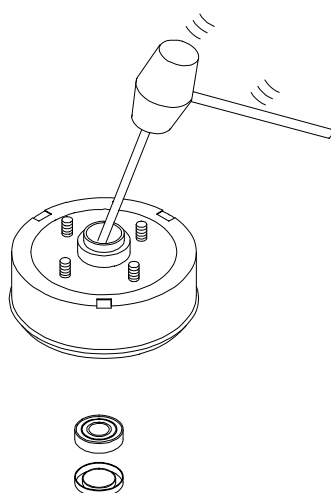

Figure 4.12.3
2. Remove oil seal and bearing cone (with rollers), remove bearing cup by using a 'drift' or bar through the hub bore, and tapping the cup and oil seal out with a hammer. (See Figure 4-12.3)